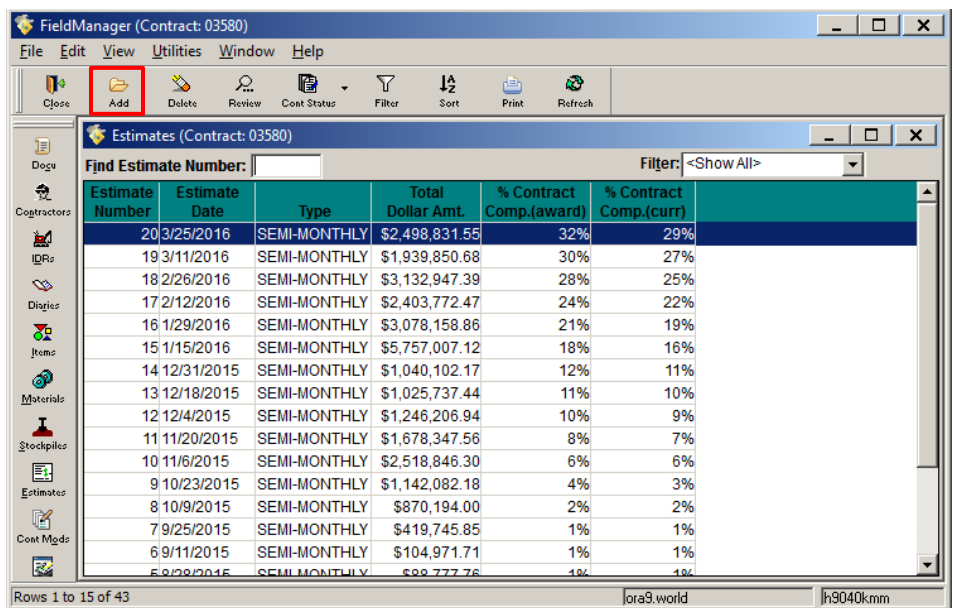
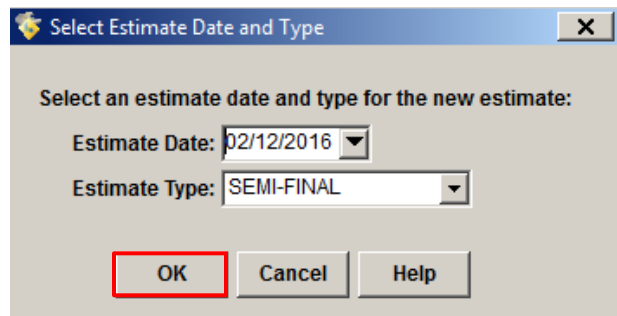
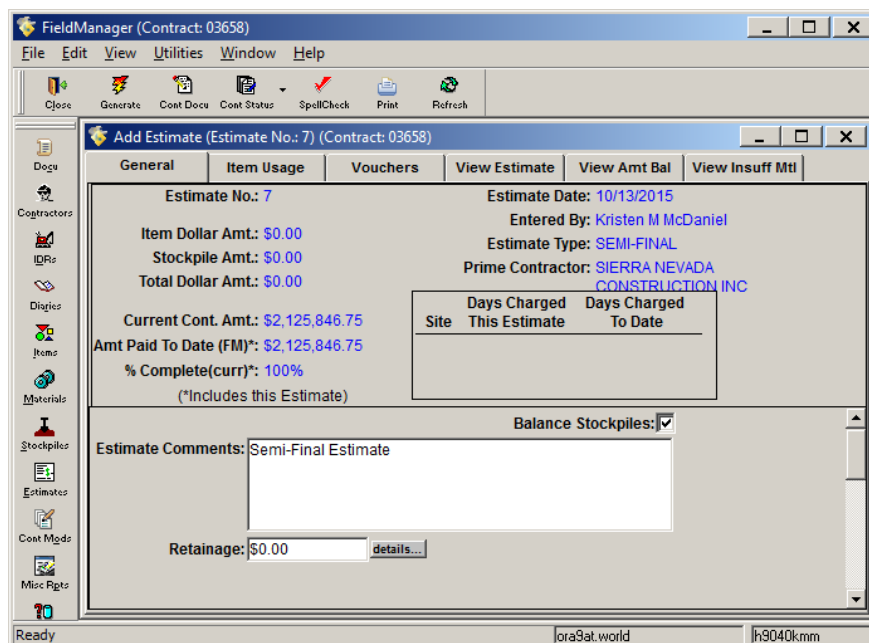

Figure 13-2. Estimates List Window
Figure 13-3. Select Estimate Date and Type Window
Figure 13-4. Add Estimate Tab Window – General Tab
1. Select the desired contract from the Contracts list window and click **Estimates** on the Application Toolbar (13-1). The Estimates list window opens (Figure 13-2).
2. Select the **Add** button located in the Window Toolbar (Figure 13-2). The Select Estimate Date and Type window opens (Figure 13-3). The estimate date MUST be a cut-off date.
3. Use calendar drop-down menu to select the Semi-Final estimate date or type it in directly (Figure 13-3).
5. Click **OK** to continue (Figure 13-3). The Add Estimate tab window opens with the **General** tab displayed (Figure 13-4).
1. In the **Estimate Comments** field enter “Semi-Final Estimate” (Figure 13-4).
2. Check the **Balance Stockpile** box if you have stockpiles that do not equal zero (Figure 13-4).